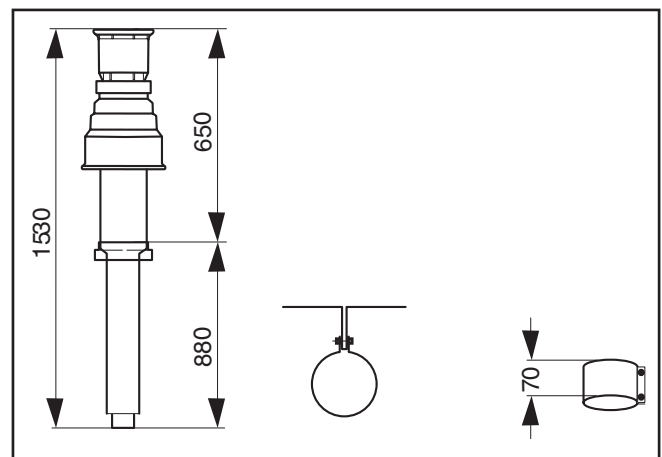

Fig. 3.5 Vertical Flue System Art. No. 303200
- 80/125 Vertical air/flue duct and terminal, see fig 3.5.